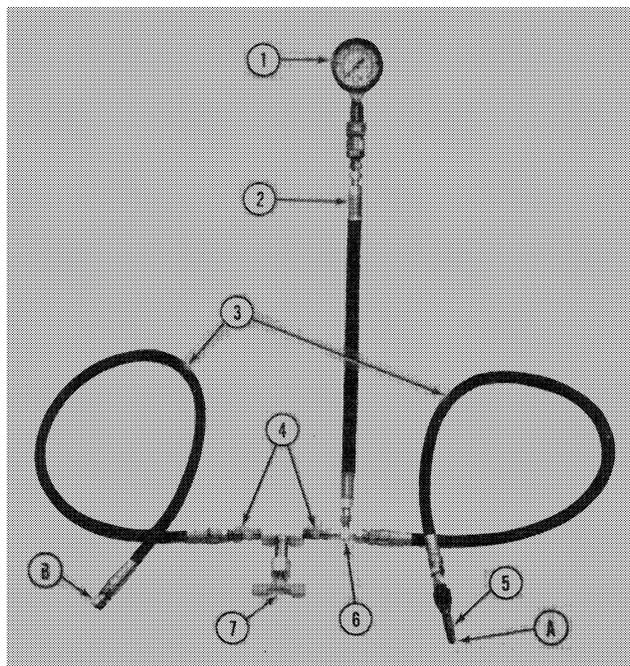

Figure 11
To test the pressure and flow of the low pressure system pump on 5610 through 7710 tractors, it is necessary to install Special Fitting No. 4653 in the pump outlet port at the bottom of the pump cover (Figure 11 and 12). With this fitting installed, all oil from the low pressure pump is bypassed directly to the test equipment. No oil goes to the PTO, dual power or front wheel drive control valves.
2. Install special fitting and connect the test equipment as shown in Figure 11. Be sure the load valve is fully open.